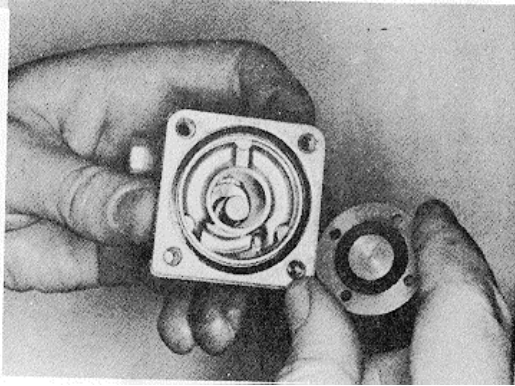

Fig. 5-38, F528. Inspecting plate type valve
2. Visually check valve and valve seat for wear, bonding failure or corrosion. Replace if necessary. Valve seat should have a minimum seat 0.015 inch [0.38 mm] wide. Fig. 5-38.